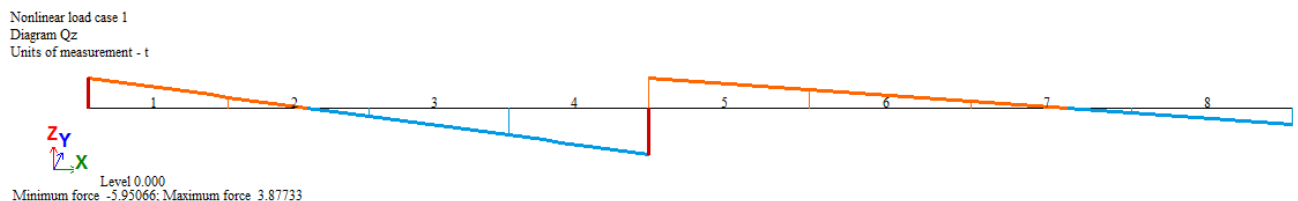

Figure 7.27 Shear force diagram **Qz**
- ⇒ To display diagram **Qz** (see Fig.7.27), on the **Results** tab, select **Forces in bars** panel and click **Diagrams Qz** button .